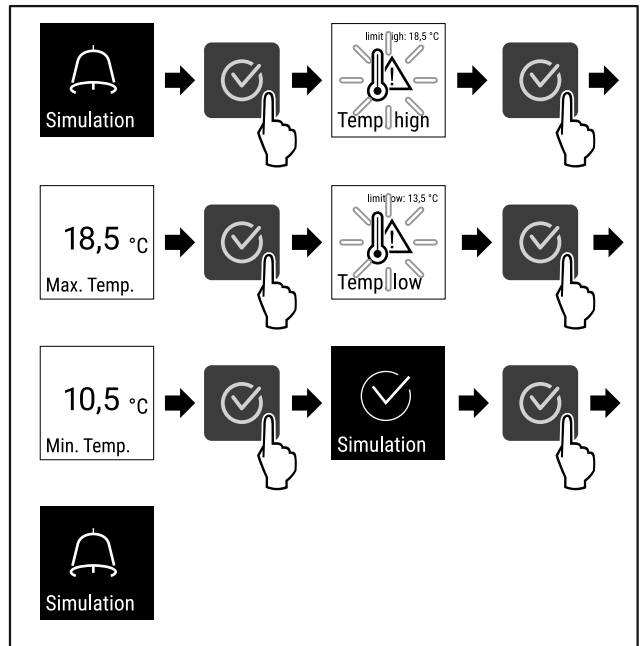

Fig. 108
- Complete steps (see Fig. 108) .